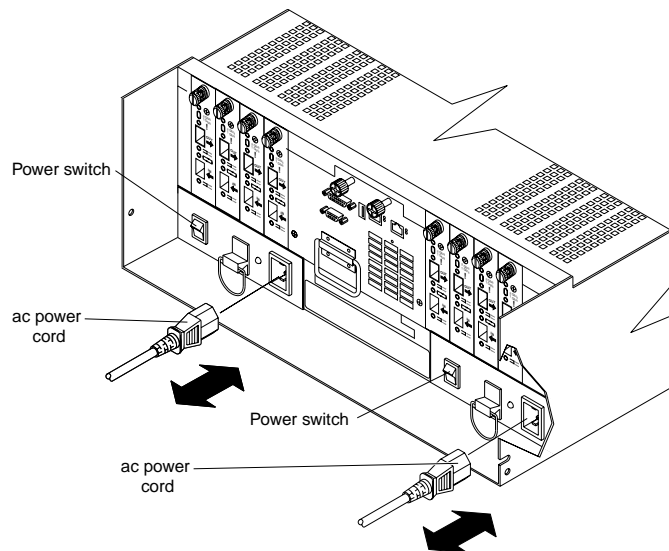

Figure 41. Connecting the power cords and turning the power on and off
2. Plug both FAStT700 Storage Server power cords into the FAStT700 Storage Server, as shown in Figure 41.